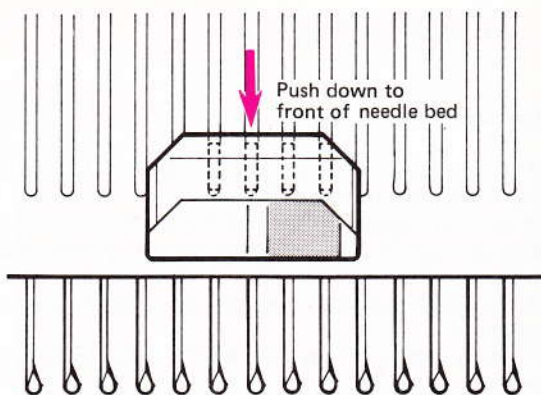

Fig. 113
- Place the point cam at the front of the needle bed (as in fig. 113). Push the cam to the front so that it is secure on the needle bed. If this is not done the machine will not knit.